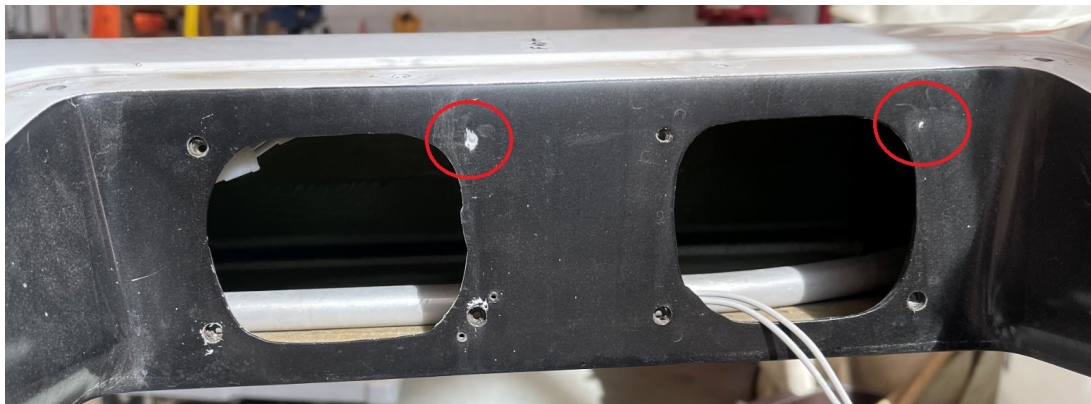

Figure 1. 4th holes.
A. Locate the 4th holes. Refer to Figures 1 and 2.